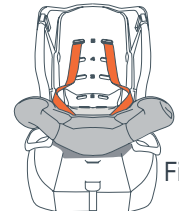

Fig. 34a
3. Loosen harness by pressing the harness adjuster and pulling on harness. Pull top of seat fabric down to expose the forward facing belt path (Fig. 34a).